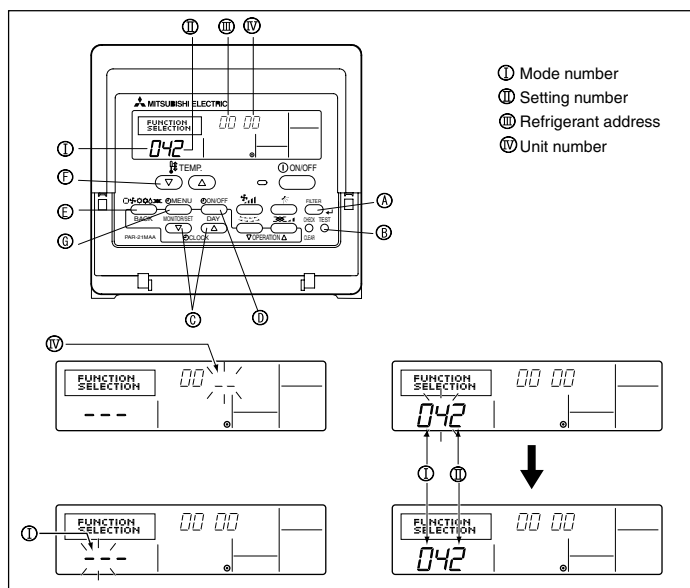

Fig. 6-9
1) For wired remote controller (Fig. 6-9)